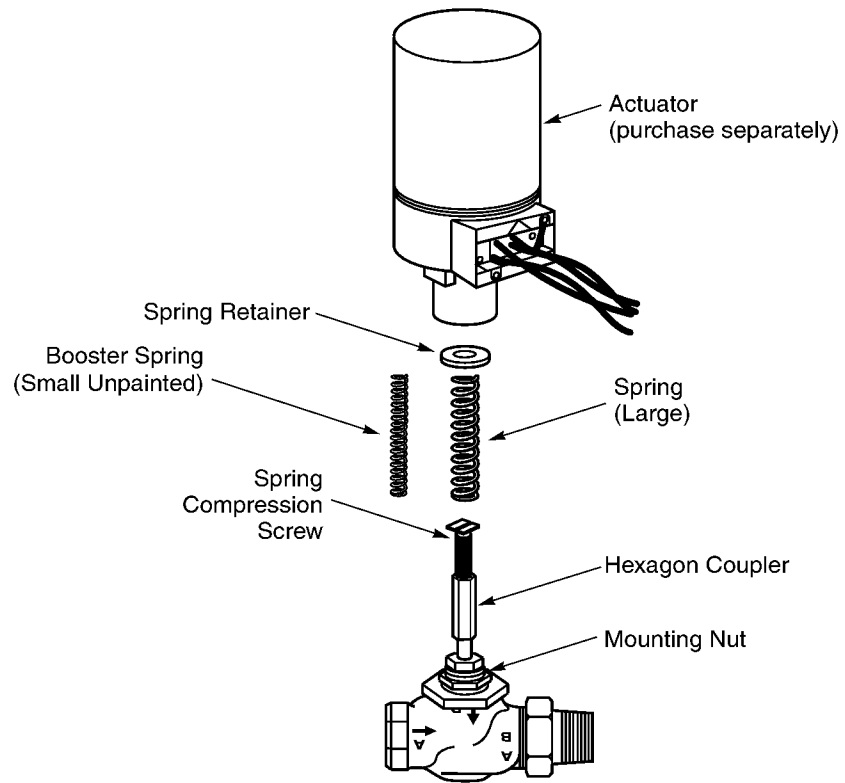

Figure-3 Assembly of Linkage Kit onto VB-7XXX Series Valve.
10. Center the spring on top and bottom to assure smooth actuator operation. See Figure-3 for total assembly components required.